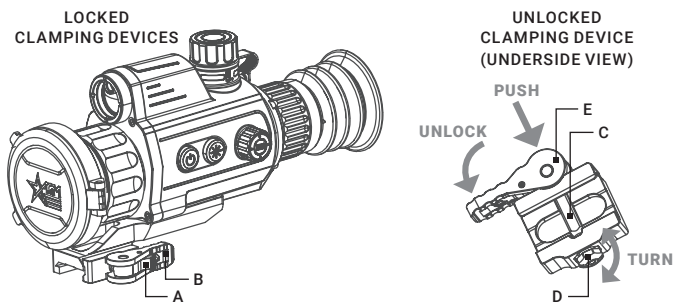

FIGURE 2-6. MOUNT
To install the Rattler LRF on a Picatinny/Weaver rail, perform the following (Figure 2-6):
2. With the clamping device unlocked (as shown in Figure 2-6), push the cam (E) towards the arrow, which will cause the nut (D) to slide out of its hole.
3. To tighten/ loosen the clamping device, push down on the cam (E) and turn the nut (D) CW/ CCW respectively, in one-two increments (see note below). Much like when the cam (E) is released, backward-moving spring will cause the nut (D) to slide back into its hole.